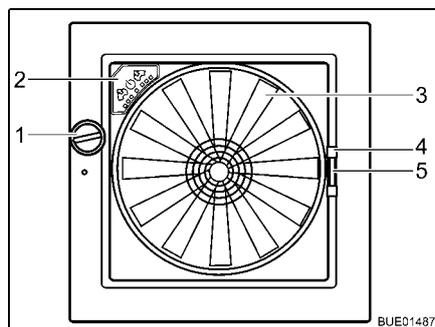

Fig. 111 Omni-Vent skylight
- Opening:** ■ Turn the knob (Fig. 111,1) until the desired opening angle is reached.
- Closing:** ■ Turn the knob (Fig. 111,1) until the skylight is fully closed.
- Closing:** ■ Using the handle (Fig. 111,4) pull the insect screen across to the other side of the frame.
Closing: ■ Press together the handle (Fig. 111,5) of the shade.
Fan If the skylight is open, the interior can be vented and aerated with the 6-speed fan (Fig. 111,3). The fan is operated via the operating panel (Fig. 111,2).